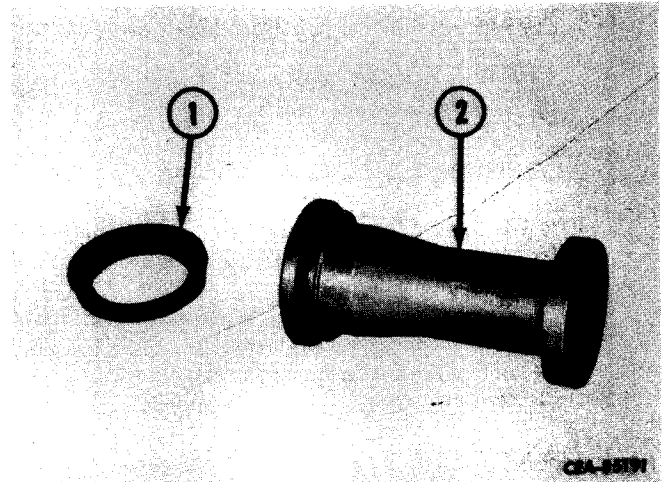

Figure 13-37
Remove secondary cup (1, Fig. 13-37) from piston (2).
Install secondary cup (1, Fig. 13-37) on piston (2).